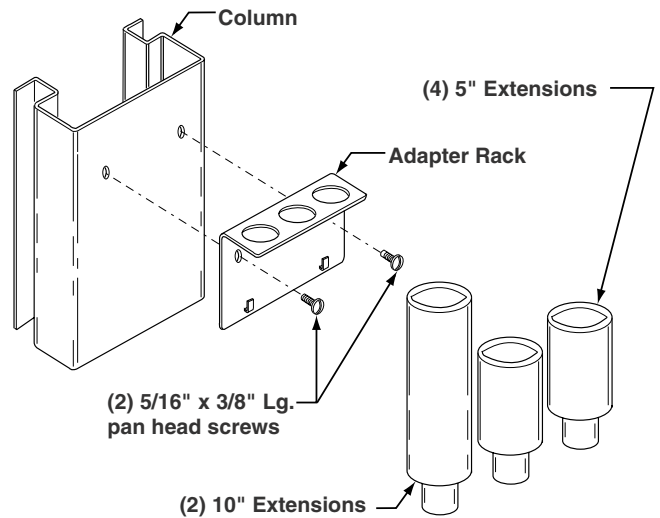

Fig. 24
21. Adapter Rack: Install adapter rack, Fig. 24. Place extension in racks.